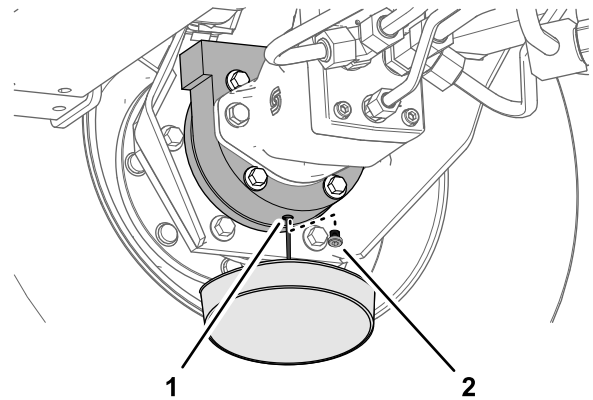

Figure 107
6. Place a drain pan under the brake housing, remove the drain plug, and allow the oil to fully drain (Figure 107).